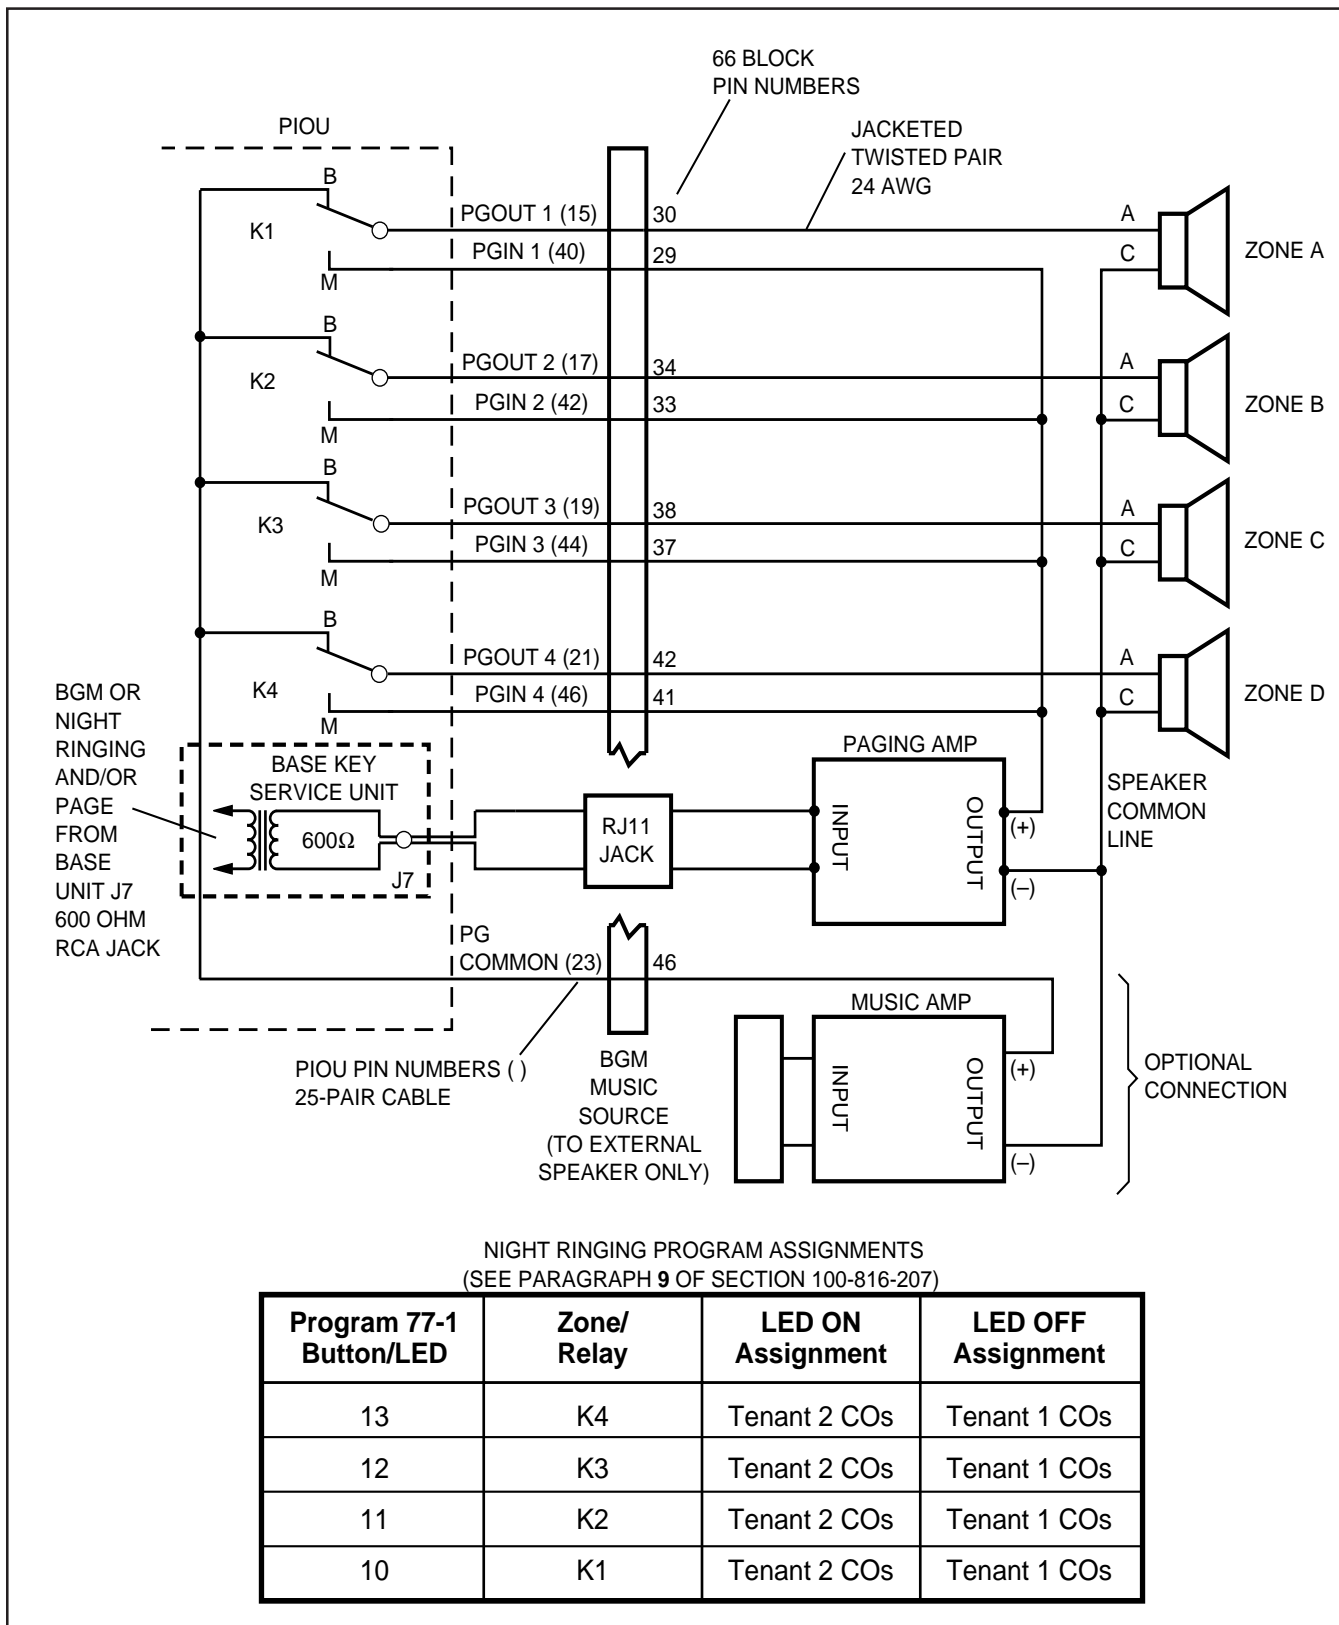

FIGURE 7-16
5.14 An all zone page code (39) is also available as an option (see **Program 10-2**). When the all page code is dialed, all four relays are activated to permit simultaneous paging to all speaker zones and all digital and electronic telephone speakers. Install this option in accordance with the following steps (refer to Figure 7-16):